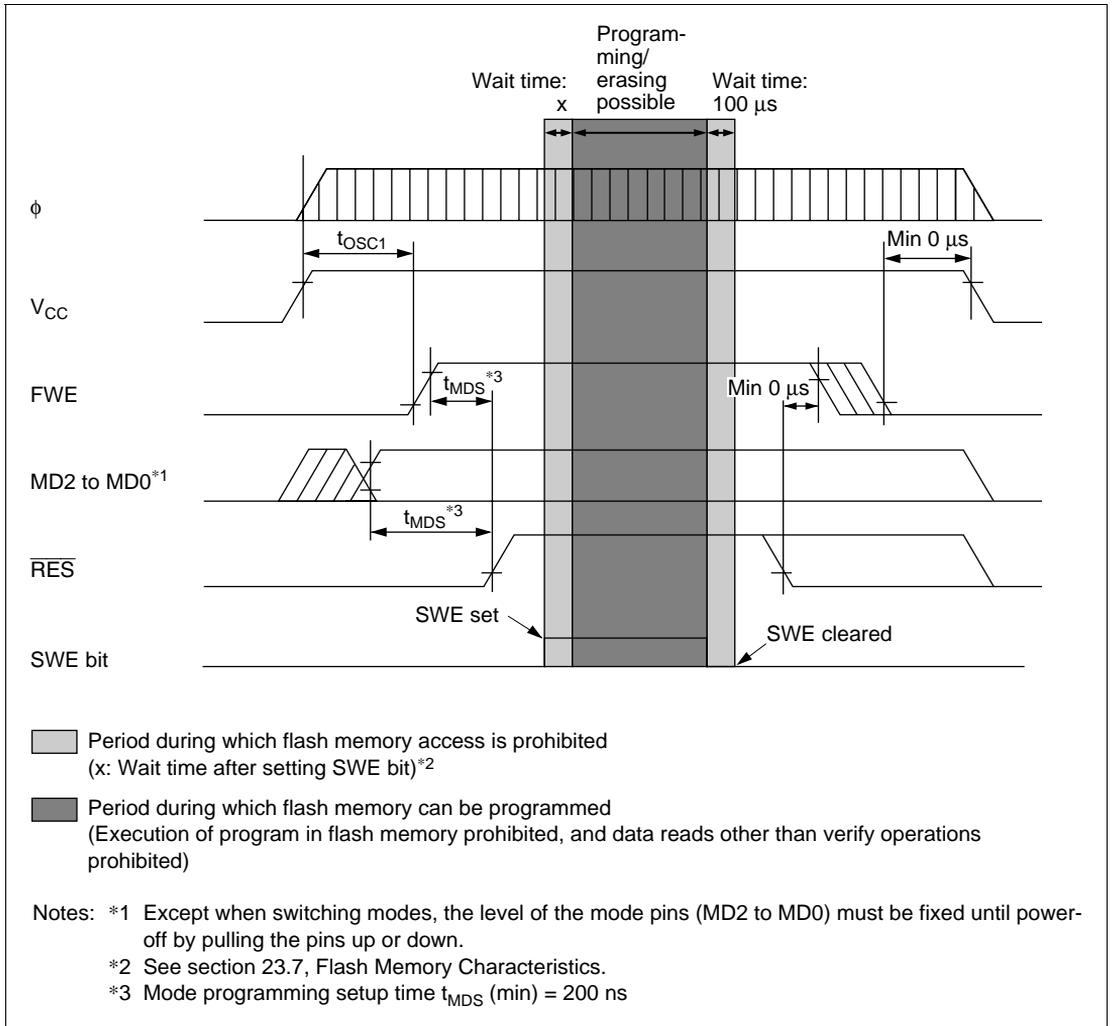

Figure 20-26 Power-On/Off Timing (Boot Mode)
2. Powering on and off (see figures 20-26 to 20-28)
3. FWE application/disconnection (see figures 20-26 to 20-28)